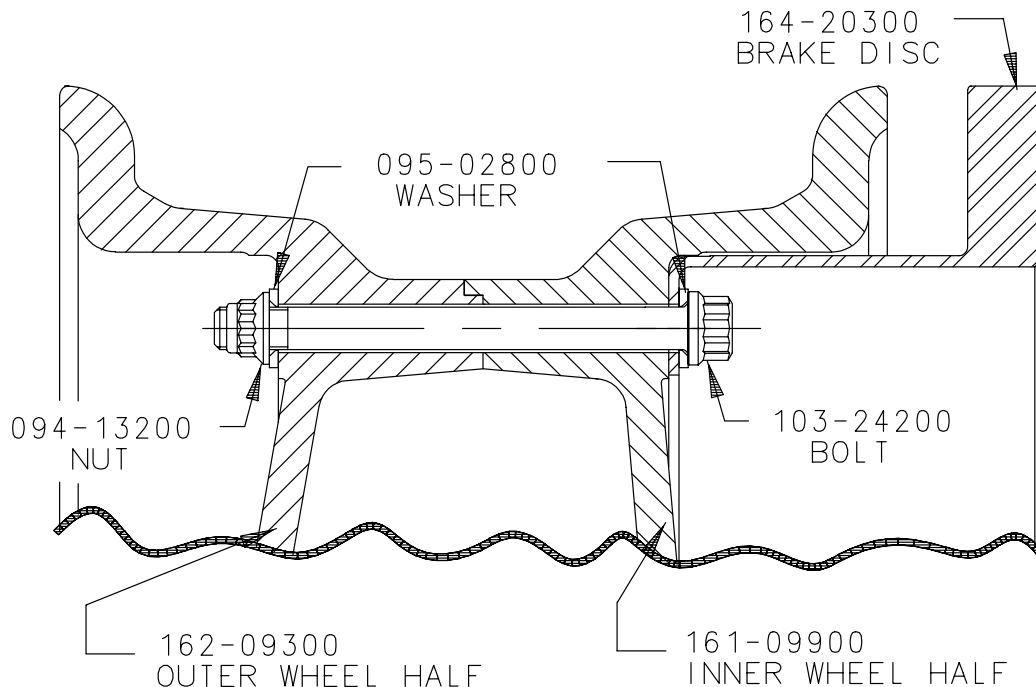

Figure 1
C. Align wheel halves and slide tie bolt through outer wheel half assembly, P/N 162-09300. (See Fig. 1 on page 4.)